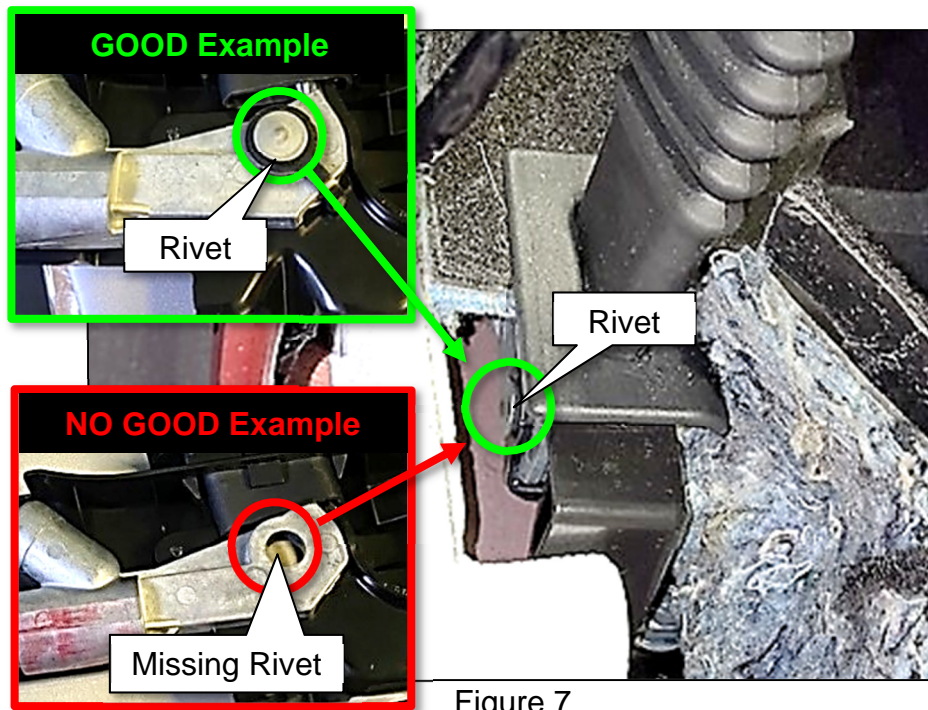

Figure 7
7. Inspect the Driver Seatbelt Pre-tensioner for the presence of a rivet, as shown in Figure 7.